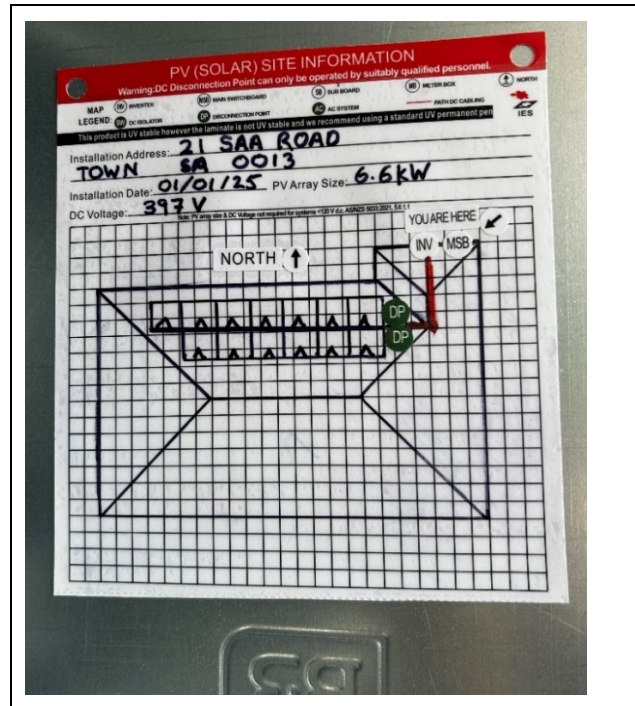

Figure 3: Hand drawn site information sign is compliant with all requirements.
1. Carry hand-drawn solar system layout templates in the work vehicle, allowing them to be clearly completed with a permanent marker at the end of each job, in accordance with Figure 3.